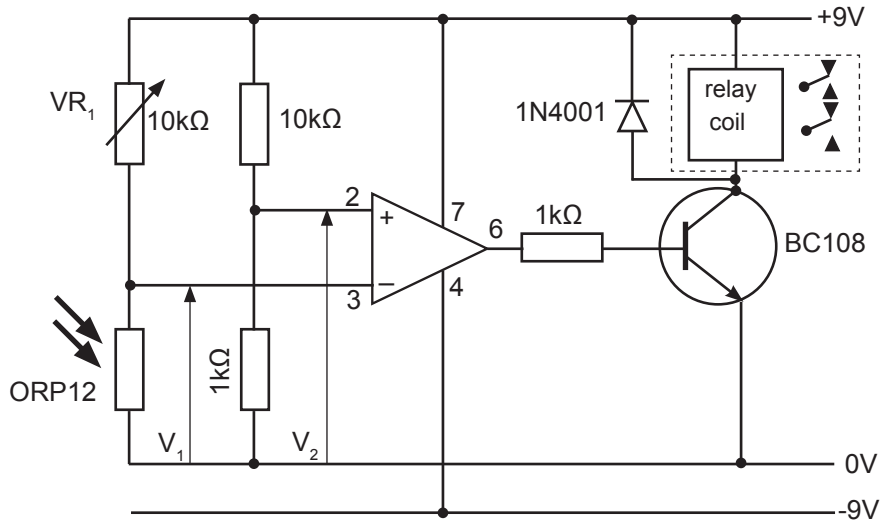

Fig. 23
(d) Fig. 23 shows a light activated switch circuit.
(ii) Describe the operation of the circuit in Fig. 23.
(iii) Name item 1N4001 in Fig. 23.